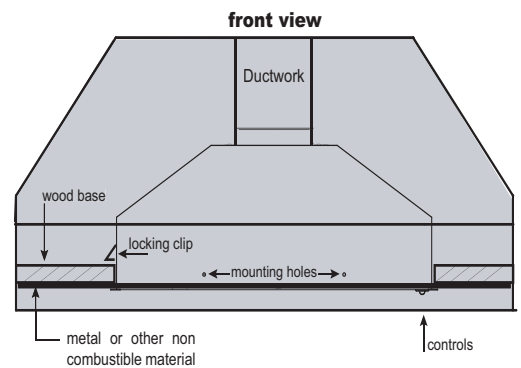
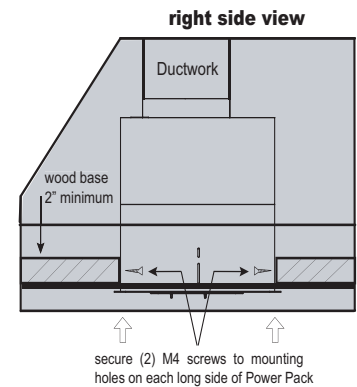

FIG 2
FIG 3
3. Lift Power Pack into opening and ensure locking clip has locked into position. (locking clip is located on left side of Power Pack. **FIG 2**
4. Remove (4) screws from the front of the face plate and (2) screws from the inner brackets. The face plate can now be removed and will be held by pre-installed support chains during installation into cabinet for easier access to installation screws.
5. Fasten (2) M4 screws into each long side of Power Pack. If a liner is used the screws will go through the Power Pack mounting holes, then the liner and into the wood base. **note:** Wood blocking may need to be added to cabinet base if additional support is needed. see **FIG 3 and FIG 4**